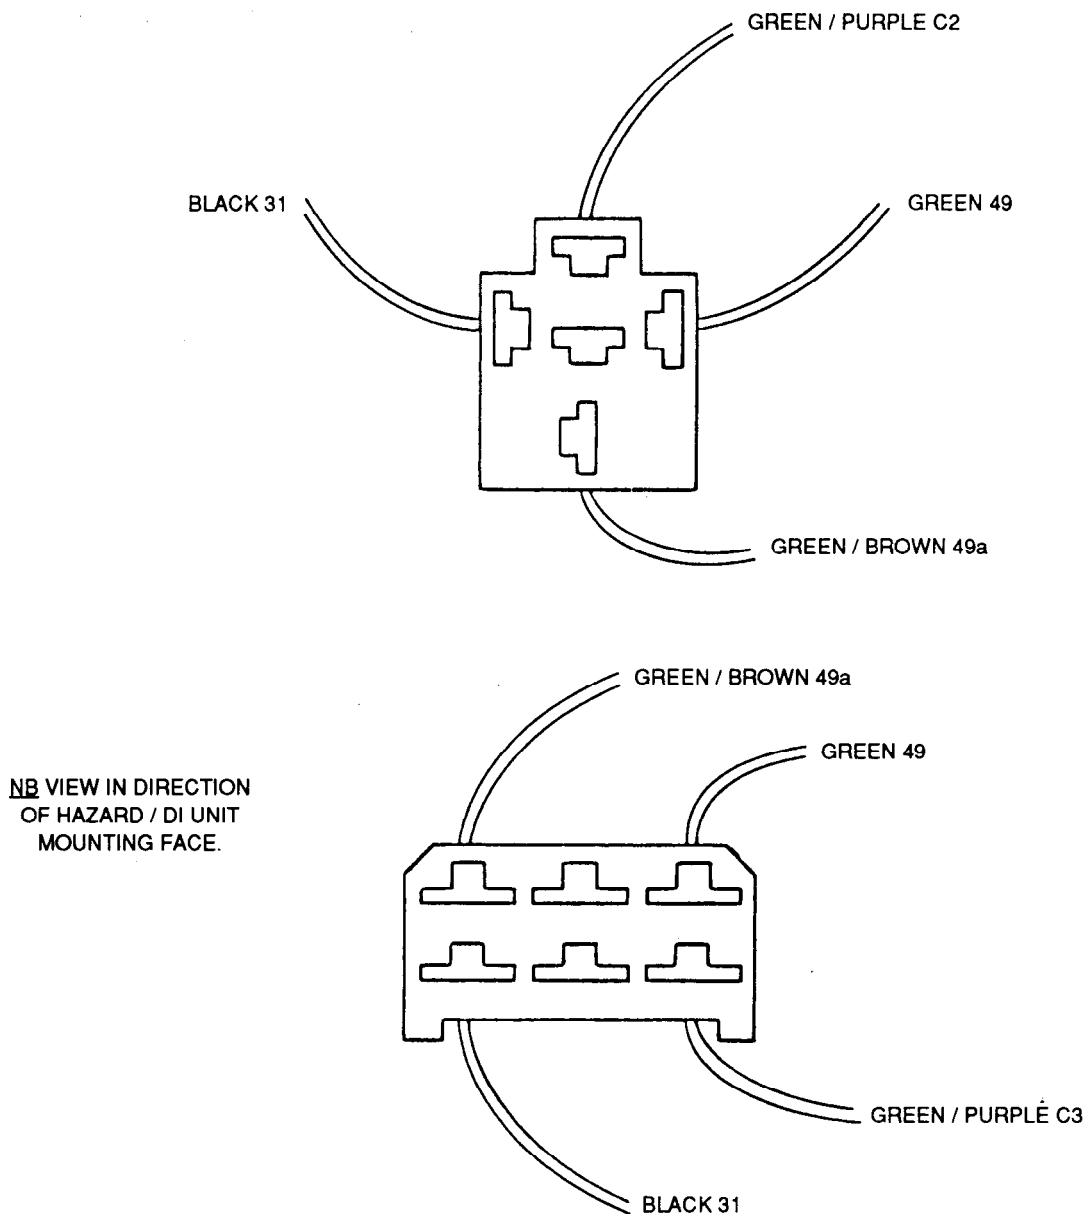

FIG 1 - INDICATOR FLASHER UNIT CONNECTOR WIRING
- f. Refit the terminals to the new connector plug (item 1 from Table 2) as shown in Fig 1.